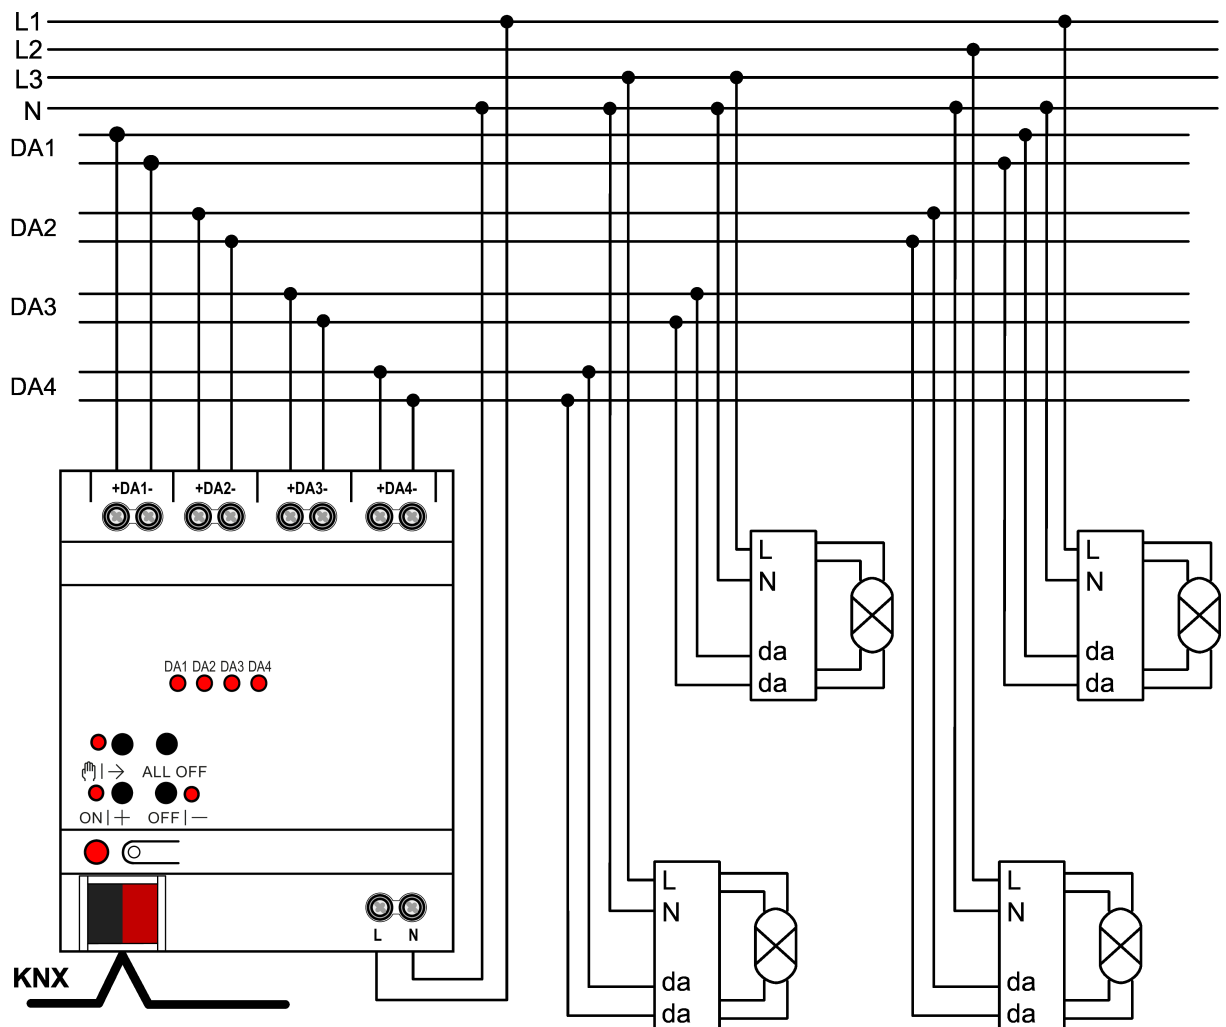

Figure 4: Connection example
- Connect device as shown in the connection example (see figure 4).